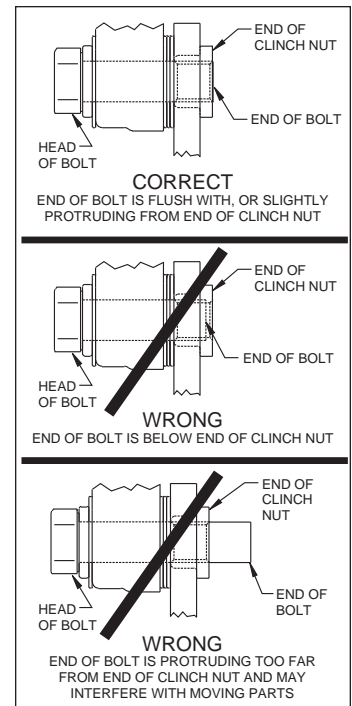

Figure 4. Clinch Nut Engagement Diagram
**CAUTION:** All mounting bolts must fully engage insert nuts, Figure 4. Be sure to check that all bolts are either flush or protruding through flanged side of insert nut after shimming. Rear hole refers to the part of the spindle that would be facing the back of the vehicle, front is facing the front of the vehicle.
- Adjust by adding or subtracting shims (2) between the bracket and the spindle. Always use the same amount of shims on each of the two mounting bolts.
- NOTE:** The end of each bolt must be flush with or slightly protruding from the head of the clinch nut, as shown in Figure 4. If necessary place spare shims (2) between washer (19) and caliper mounting ear to achieve the proper clinch nut engagement. Once the caliper alignment and clinch nut engagement is correct, remove the ProSpindle and steering arm bolts one at a time, apply red *Loctite*® 271 to the threads, and torque to 55 ft-lb. Remove the caliper mount bolts one at a time, apply red *Loctite*® 271 to the threads, and torque to 40 ft-lb.
- Install the disc brake pads (21) into the caliper (18), with the friction material facing the rotor (8), and secure in place using the pad clip retainer (22), Photo 10.